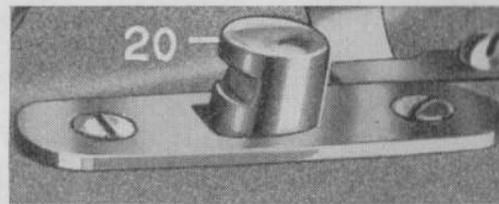

FIG. 18
To effect this, depress drop feed button (20), fig. 18, located on the bed of the machine right in front of the arm. By pushing this button to the left while depressing it, the feed can be locked in dropped position. Pushing the button to the right will put the feeding mechanism back into operation.